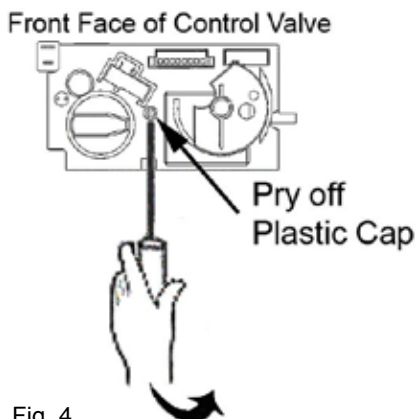

Fig. 4
5. **Remove the plastic cover from the valve** using a flat blade screwdriver tip (see Fig. 4).